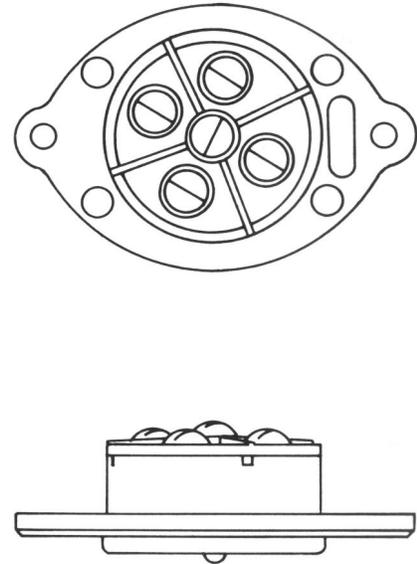

Fig. 30—548A-Type Jack
2.26 548A-49, -50, and -54: These flush-type jacks (Fig. 30) consist essentially of a block of plastic insulating material containing four intermeshed coil spring contacts. These jacks are associated with the 283B or 505A-type plug and the plug can be inserted in one position only. The 548A-type jacks are designed for mounting in the woodwork at subscribers stations on a 63A bracket with a 16A-type faceplate, or on a bracket in a standard electrical outlet box. These jacks also form part of the 550A-type jack. The use of the 548A-type jacks is with the portable telephone sets having two, three, or four conductor mounting cords. The 548A-type jacks will not fit faceplates designed for 493A-type jacks.